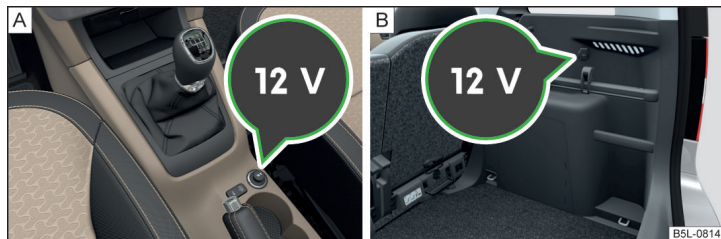

Fig. 81 Cover the 12-volt socket: in the front centre console / in the luggage compartment
- To **use**, remove the cover of the socket » Fig. 81 - **A** or open the cover of the socket » Fig. 81 - **B**.